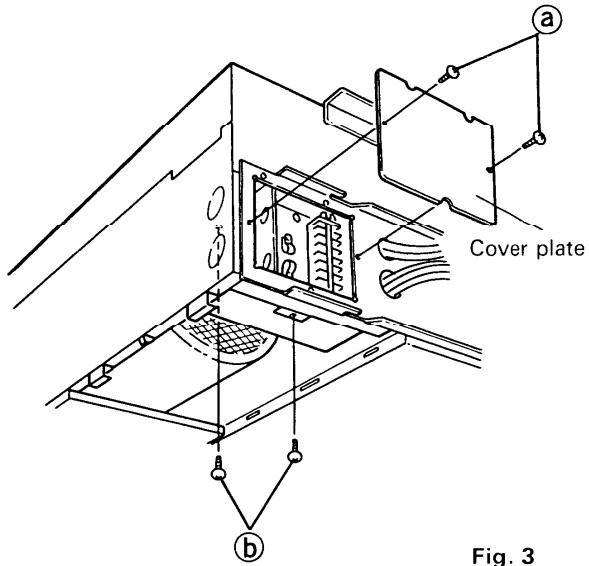

Fig. 3
- (1) Remove the two screws (a) of the electrical component box, and remove the cover plate. Fig. 3
- (3) When the three screws ⑤ are removed, the electrical component box can be pulled out to the lower side of the unit. (The one other screw ⑥ is at the rear between box and casing.) Fig.3